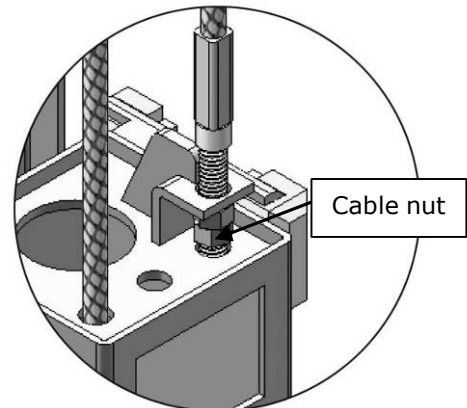

Fig. 50
1. Adjust synchronous cable (See Fig. 50)